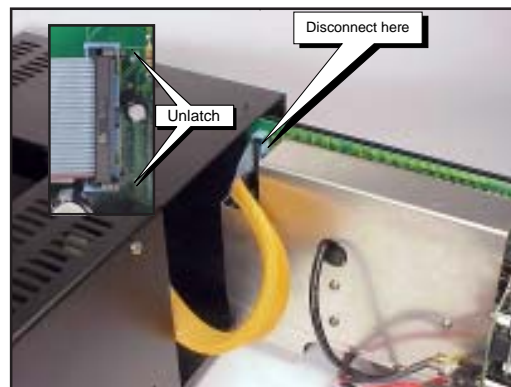

Figure 2-1, Inverter Module ribbon cable
5. Disconnect the Ribbon cable attaching the inverter module to the power distribution board before sliding the inverter module all of the way out. (Refer to Figure 2-1.)